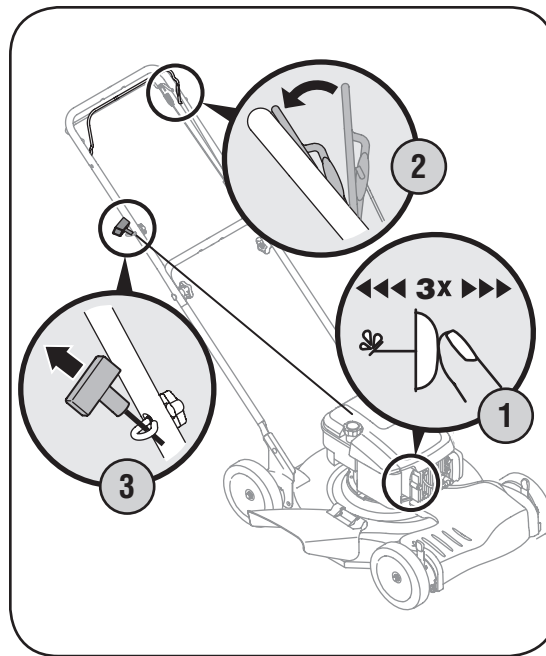

Figure 4-2: Starting engine.
1. Push primer (if equipped) three times. Wait about two seconds between each push. See Figure 4-2. In temperature around 55° F or below, prime five times. Do not prime to restart a warm engine.
2. Standing behind the mower, squeeze the blade control against upper handle. See Figure 4-2.
3. Holding these two handles together firmly, grasp recoil starter handle and pull rope out with a rapid, continuous, full arm stroke. See Figure 4-2. Keeping a firm grip on the starter handle, let the rope rewind slowly. Repeat until engine cranks. Let the rope rewind each time slowly.